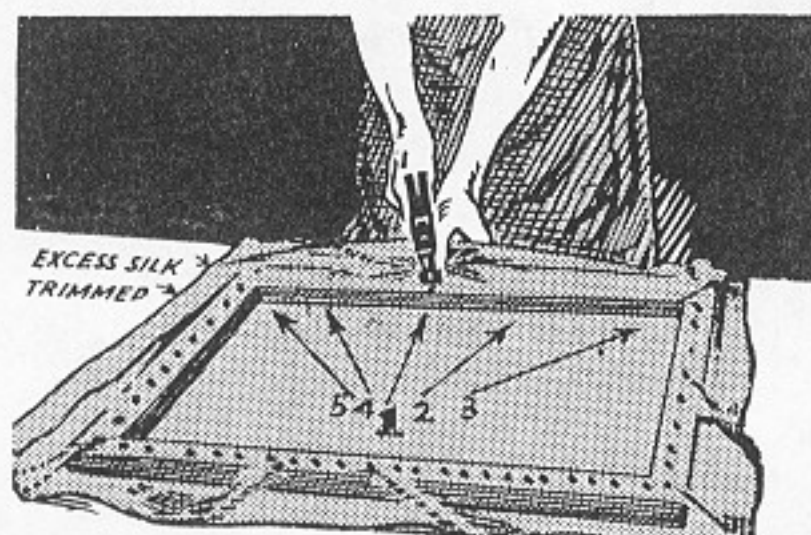

Fig. 34. Tack Silk Along Other Side
5. Tack along the edge in the same manner, Fig. 34. The silk should be stretched tightly on the frame and there should be no wrinkles. Trim the excess silk from the edges with a razor blade.